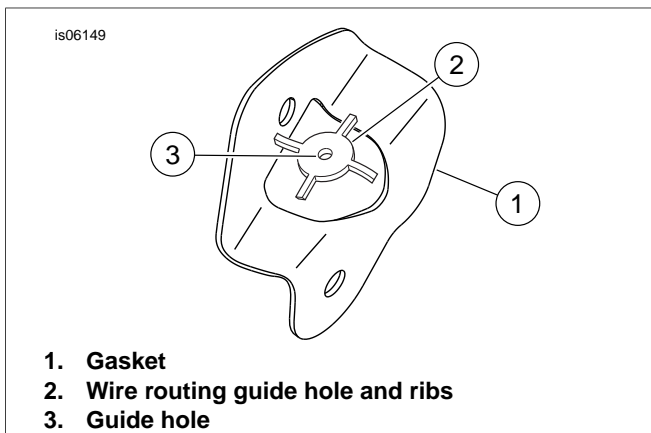
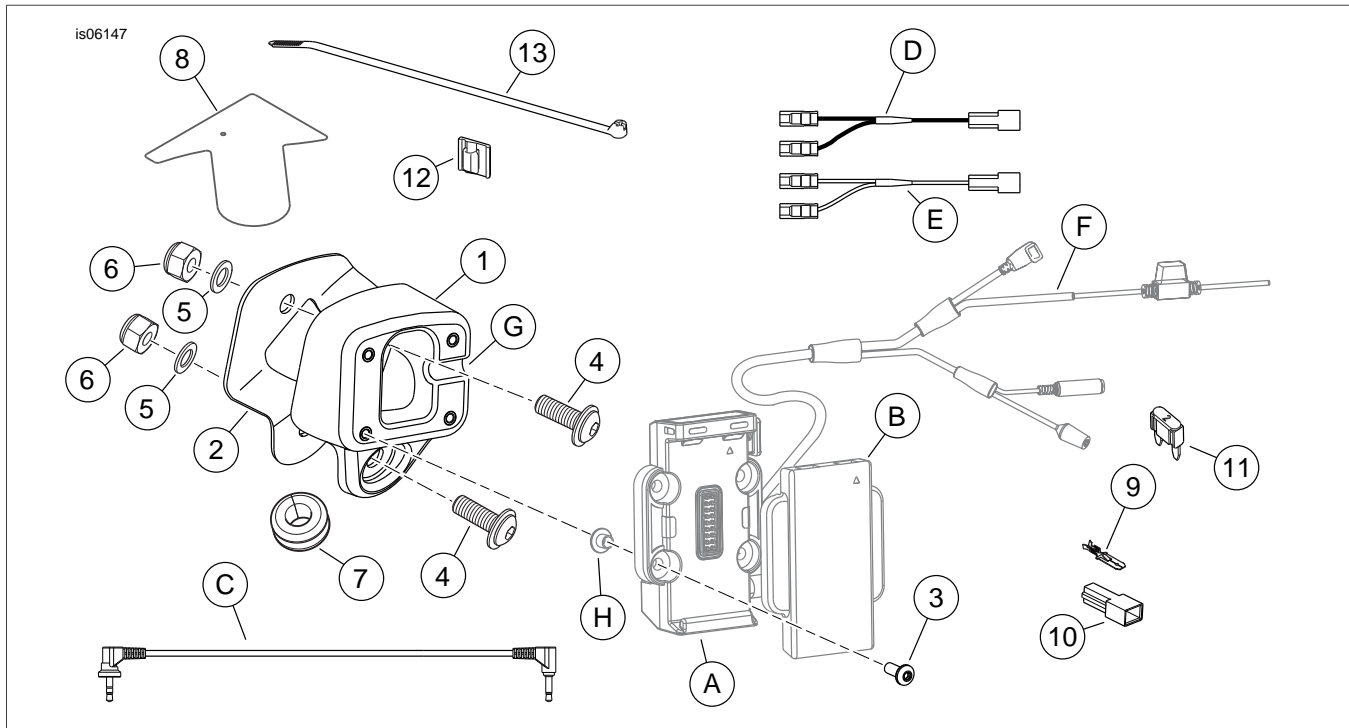

Figure 2. Remove Gasket Ribs and Guide Hole
Figure 4. Service Parts, Road Tech 660 GPS Fairing Mounting Kit
See Figure 4 and Table 1.
6. See Figure 4. Position the gasket (2) and GPS mount (1) onto the face of the inner fairing, aligning the upper hole in the mount with the hole drilled in the previous step.
7. Temporarily install one of the screws (4) through the upper hole to help align the GPS mount.
8. See Figure 2. Mark the location of the lower mounting hole on the face of the inner fairing, using the GPS mount and gasket as a template. Mark the location of the wire routing hole using the guide hole (3) in the gasket as a template.
11. See Figure 2. Remove the wire routing guide hole and four ribs (2) from the gasket (1).
12. See Figure 4. Install the GPS mount and gasket to the inner fairing with screws (4) flat washers (5) and locknuts (6). Tighten to 50-60 **in-lbs** (5.6-6.8 Nm)
1. See Figure 4. Install four bushings (H) from the GPS system kit and insert them into the back of the cradle mounting holes.
2. Position the cradle to the GPS mount. Direct the harness out through the slot (G) of the mount.
3. Insert a button head screw (3) through one of the holes in the cradle and into the corresponding hole in the GPS mount, but do not fully tighten.
4. Install the remaining three button head screws (3). Incrementally tighten the four screws to 14-20 **in-lb** (1.58-2.26 Nm).
- a. Remove the tape tying the black (1) and orange/white (2) wires of circuit [29B] to the vehicle main harness.
- b. See Figure 4. Obtain the male tab terminals (9) and housings (10) from the kit. Follow the service manual instructions to crimp the terminals onto the free ends of the Road Tech Zumo power harness (F). Insert a terminal and wire into each tab housing.
- b. See Figure 4. Obtain the multiple accessory Y-harnesses (items D and E, purchased separately).